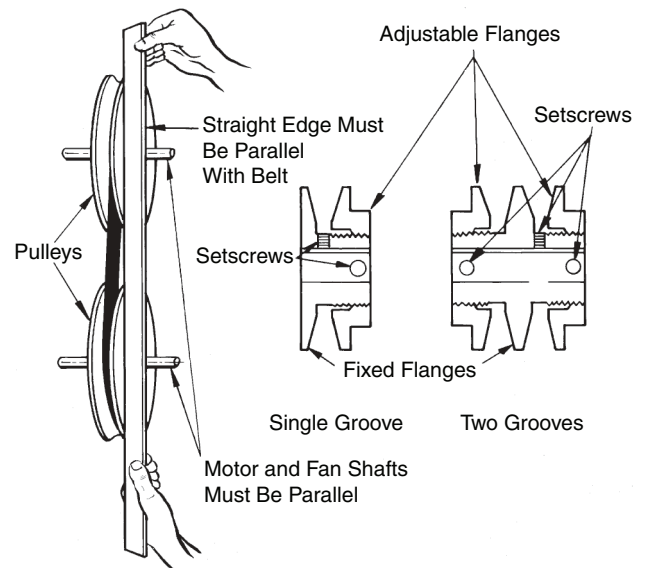

Fig. 33 — Fan Pulley Adjustments
3. Use the methods shown in Fig. 33 to check proper pulley alignment.
2. Loosen setscrew in movable flange of pulley. Screw movable flange toward fixed flange to increase the fan speed and away from fixed flange to reduce speed. Before tightening setscrew, make certain that setscrew is over nearest flat surface of pulley hub. (See Fig. 33.)